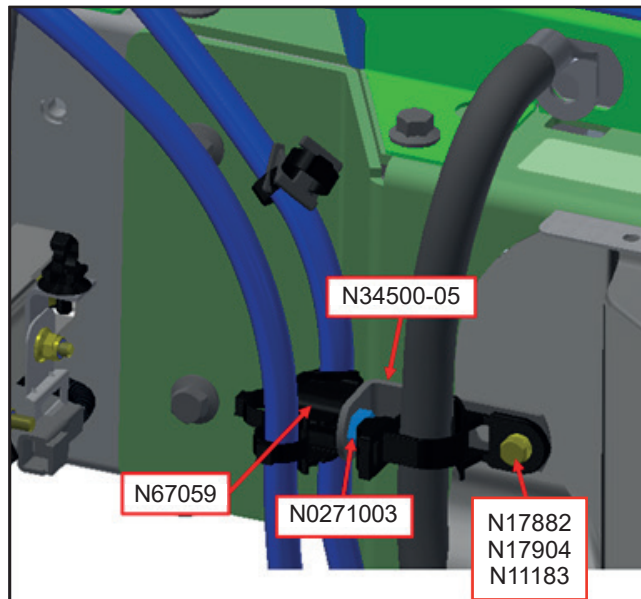

Figure 6 - Installation of New Support Mount
- 1.11. Pre-install the mount N67059 and bolt N0271003 on bracket N34500-05 (see figure 6).